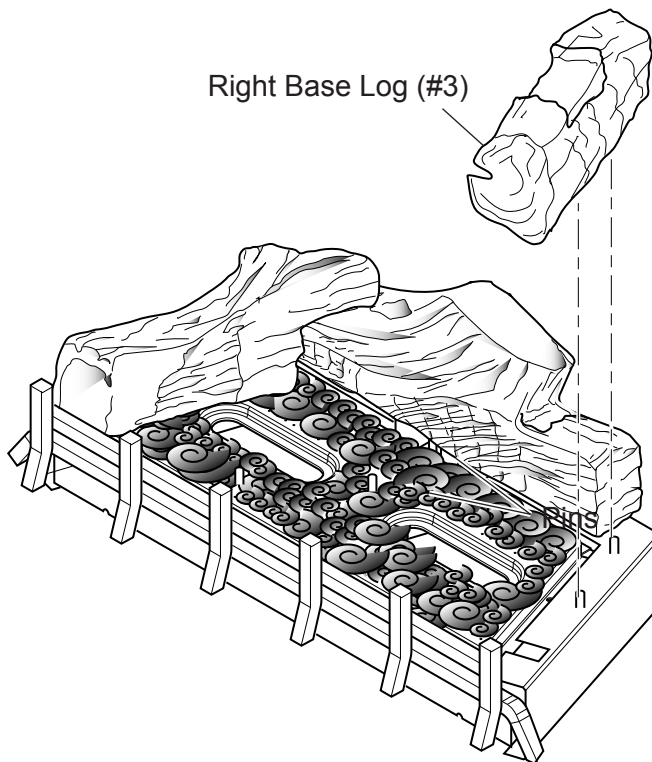

Figure 21 - Installing Right Log #3
6. Line up holes in bottom of right base log (#3) on two (2) pins to the right of rear log (#1). *See Figure 21.*